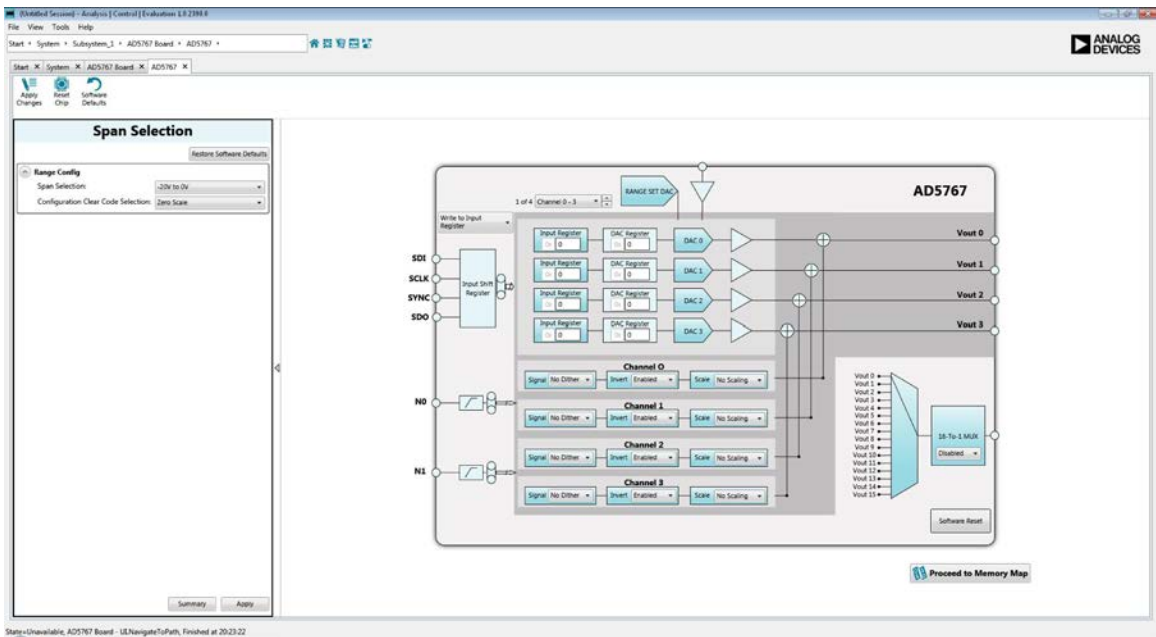

Figure 7. **Start** Tab
1. To launch the ACE software, click **Start > All Programs > Analog Devices > ACE**. The software opens in the **Start** view tab and recognizes the EVAL-AD5767SD2Z (see Figure 7).